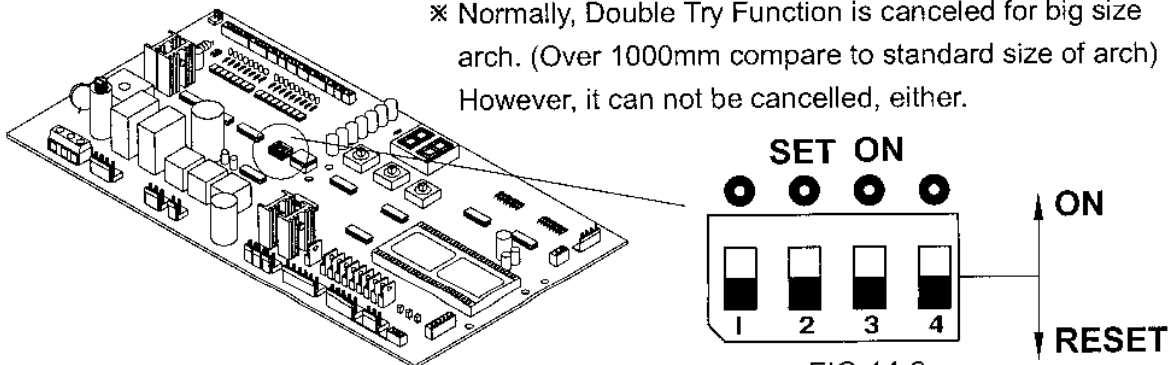

FIG.14-2
- 2-2 If you need to set up the cutting time (LD7), please poke Set Switch (Refer FIG.14-2) No.2 to "ON". Then, push "Mode" for seven times, you can try to set the cutting
- 4-1 Poke the switch No.1 to "ON" to cancel the function of "REVERSE SENSOR". (Refer to FIG. 14-2)